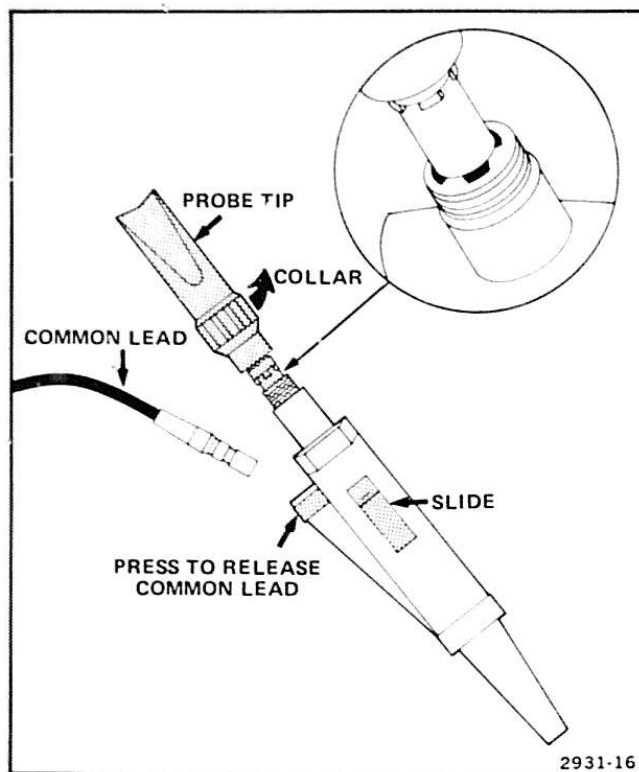

Figure 12. Setting the 1500-V probe tip angle and replacing the common lead.
The angle of the 1500-V probe tip may be rotated in 90° increments, if necessary, to make it easier to attach the probe to the circuit under test. To change the probe tip angle, refer to Figure 12 and perform the following steps:
To replace the common lead on the 1500-V Probe, press and hold the release point shown in Figure 12. Pull the lead out of the probe body and remove pressure from the release point. Install the new common lead by pushing the lead end into the probe body until an audible click is heard.
6. Move the slide forward to the position shown in Figure 12 and verify that there is approximately one-eighth inch clearance between the indexing guides on the shaft of the probe tip and the threaded portion of the probe body. If necessary, loosen the probe tip to achieve the correct clearance.